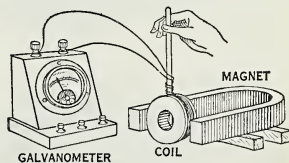
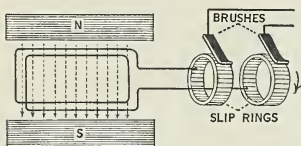
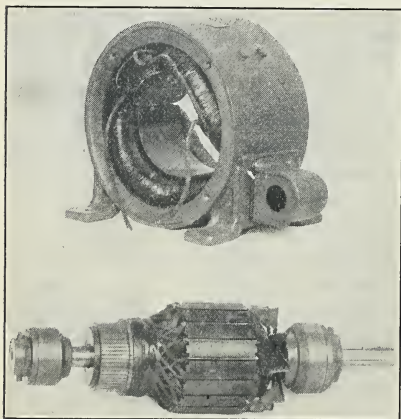

Fig. 314. The principle of a dynamo. A current develops when a coil is turned between the poles of a magnet.
Fig. 315. Diagram of an alternating current dynamo.
Fig. 316. A dynamo disassembled. Above: the stationary field coils. Below: the armature that rotates between the field coils.
It was known that an electric current in a coil of wire makes a magnet or produces a magnetic field. Faraday wondered, "Could I reverse the process and get an electric current from a magnet and a coil of wire?" He connected a coil of wire to an instrument which is used to detect feeble electric currents, called a *galvanometer* (Fig. 314). When the coil was turned between the poles of the magnet, a current was induced in the coil. This little experiment was the basis for the dynamo. Dynamos consist essentially of the same pieces of apparatus that Faraday used, except that they are built on a larger scale. Instead of a horse-shoe magnet, powerful electro-magnets are used. Turning between these magnets are many coils of wire (Fig. 316). These coils end either in a *commutator* (p. 343), or two metal rings called *slip rings* (Fig. 315). *Brushes*
of its turn, it is found that the current flows in the opposite direction. For each complete turn that the armature makes a current is produced in the coils which changes its direction twice. Each end of the coil is attached to a *slip ring* (Fig. 315). The brushes which lean against these slip rings pick up a current which flows first one way and then the opposite way. Such a current is called an
*Directions:* Connect the ends of the wire coil to the galvanometer (Fig. 314).